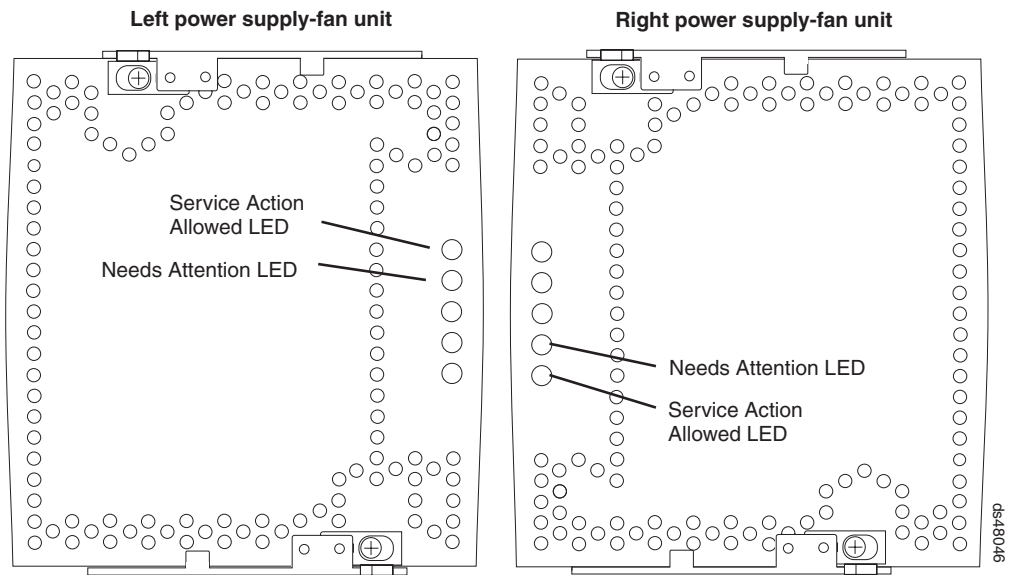

Figure 92. Power supply-fan LEDs
4. Locate the failed power supply and fan unit by checking that the power supply and fan unit Needs Attention LED that is turned on. (Figure 92 on page 154
5. Is the Service Action Allowed status LED turned on? (Figure 92 shows the location of the Service Action Allowed status LED on the power supply and fan unit.)